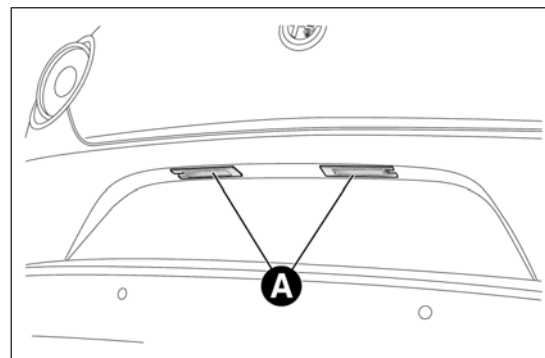

fig. 138
- ☐ remove the number plate light units fig. 138;